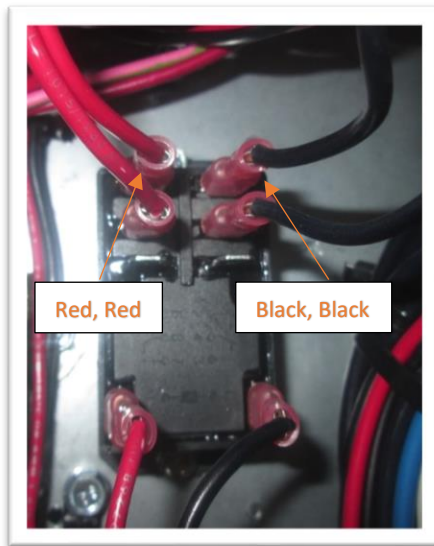

Figure 1. Relay Power Wiring
- a. Ensure that the power is correct going to the relay. Check the four wires on the top of the relay to ensure that the wires are colored the same on each side. It can be red, red on left and black, black on right, or black, black on left and red, red on right (see figure 1).